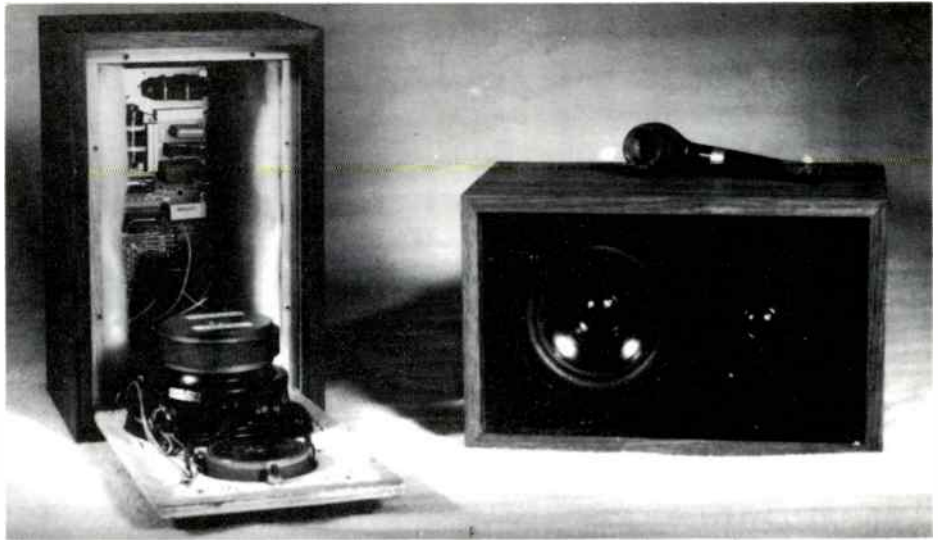

Fig. 7. Finished speakers with BAF wadding removed from top, bottom, and rear to show crossover.
42. Refer to Fig. 7 and wire the components using #18 gauge wire. Ignore the note referring to the aB tweeter section in the instruction sheet provided by Falcon. The polarity of the T27 was not marked, but a tiny piece of paper supplied with the screws indicated that the blue wire of the T27 was (+).